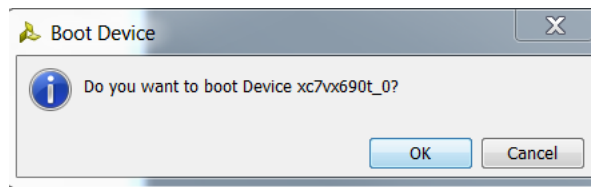

Figure A-13: Boot Device
15. Click **OK** to confirm booting the device (see Figure A-13).